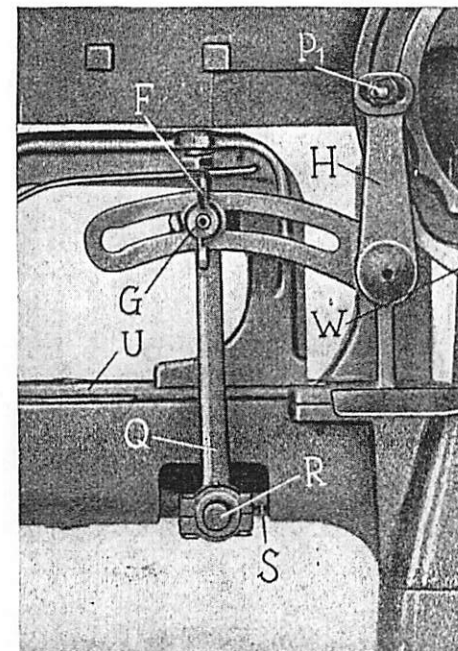
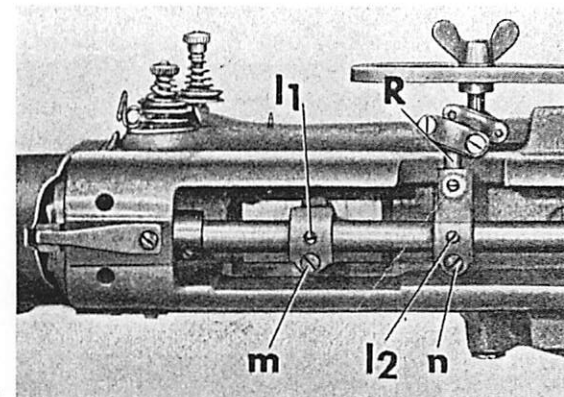

Fig. 13
Fig. 16
The amount of sideways travel of the work clamp depends on the design of the tack and varies with each subclass. To adjust the feed across motion, loosen wing nut **F** (Fig. 13) and move ball stud **G** in the slot of feed across regulator **H**, as follows:
The feed across motion is derived from the slot on the front of feed cam **W** (Fig. 13). As the roller on stud **P1** follows the channel track, the throw which is initiated by the curvature of the slot is conveyed to feed across regulator **H**, connection **Q**, ball stud **R**, feed across shaft **S** and feed plate carrier **U**, and causes the latter to move crosswise of the cylinder arm.
1. After the machine has completed the sewing cycle and stopped, loosen the nut on roller stud **P1** (Fig. 13) and center the stud in the elongated hole of feed across regulator **H**. Tighten the nut securely.
2. Move ball stud **G** (Fig. 13) toward you as far as it will go, setting clamp and feed plate for the longest crosswise travel.
4. Turn the driving pulley and check whether the right and left hand ends of the feed plate slot are equidistant from the needle hole when the feed plate is at the extreme right or left of its throw. If adjustment is required, loosen screw **h** and binding screw **m** (Fig. 16) and set the feed plate, as appropriate. Then tighten both screws securely.
5. Move ball stud **G** (Fig. 13) over from you as far as it will go, setting clamp and feed plate for the shortest crosswise travel.
6. Repeat the check outlined in par. 4 above. If adjustment is required, loosen screws **l2** and **n** (Fig. 16) and move stud **R** lengthwise of the feed across shaft until the crosswise travel of the work clamp is exactly halved by the needle. To double check this setting, move ball stud **G** (Fig. 13) from one end of the slot in regulator **H** to the other and make sure the feed plate does not move sideways.